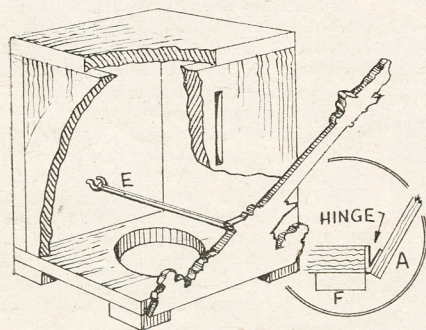

Fig. 3—General view of construction
The lower end of the overlay when fixed must come flush with the bottom edge of the box, and the enlarged detail in Fig. 3 shows how the hinging is carried out. A piece of linen tape $3\frac{1}{2}$ ins. long and $\frac{1}{2}$ in. wide is creased along its length. Half the width is glued to the overlay and half to the box as shown.
The sectional diagram, Fig. 3, shows all the necessary detail regarding the elastic (E) and the hole in the floor for the extraction of the money. Four square feet, F, should be added for clearance when the overlay is lowered.